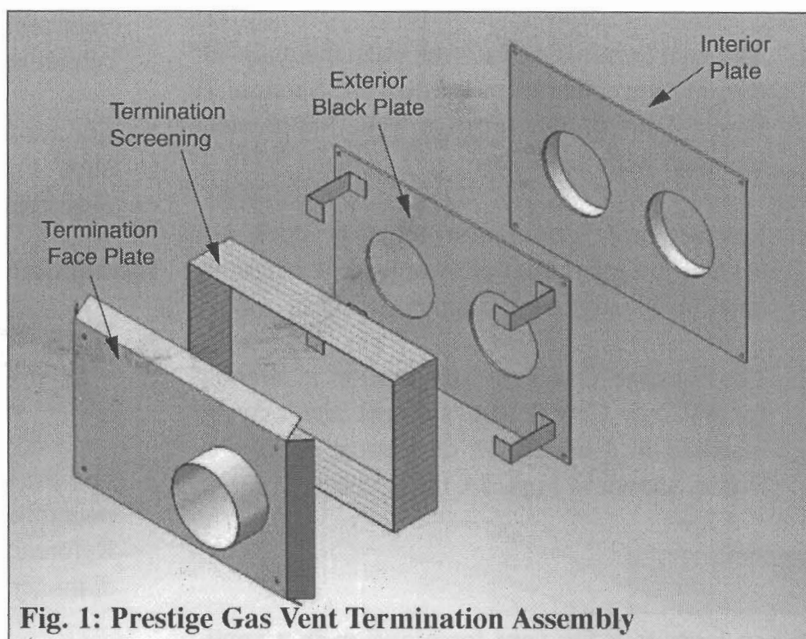

Fig. 1: Prestige Gas Vent Termination Assembly
1. Disassemble the termination plates as shown in Figure 1. Do not discard any of the mounting screws used in securing the assembly.